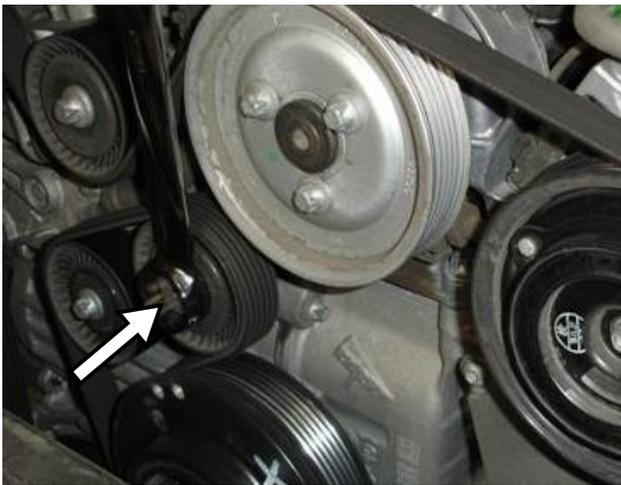

Figure 19
- De-tension belt by using a wrench on the tensioner pulley bolt and rotating clockwise and remove the serpentine belt (figure 19).